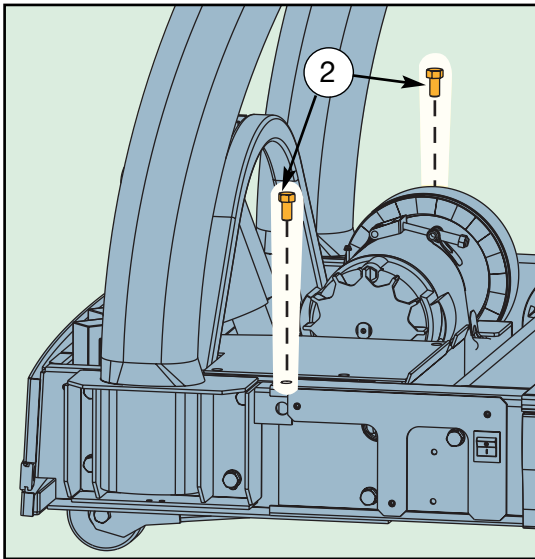

Figure 5
- A. Using a 9/16" socket wrench, loosely attach the uprights with two of the 3-8-16 x 5-8 hex head whiz-lock screws. **NOTE:** Do not securely tighten the screws until step 7C. See Figure 5.